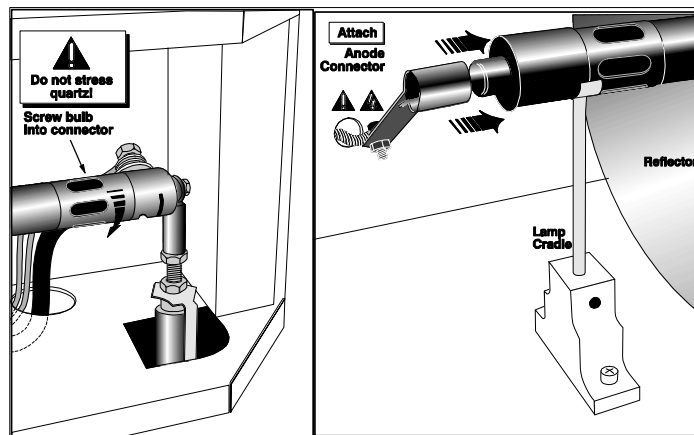

Figure 4-1 Install Bulb
- With protective clothing and shield on***, install the new lamp by inserting the threaded cathode (-) end of the lamp into the negative lamp connector nut located in the rear of the lamp compartment and screw in fully (**Figure 4-1**, left). Hand-tighten only. **CAUTION!** *Handle by the cathode/anode end shafts only, never the glass. Do not over-tighten. Do not stress the glass.*
- Rest the anode (+) end of the lamp on the lamp cradle (**Figure 4-1**) and slip the positive lamp connector over the bulb end.